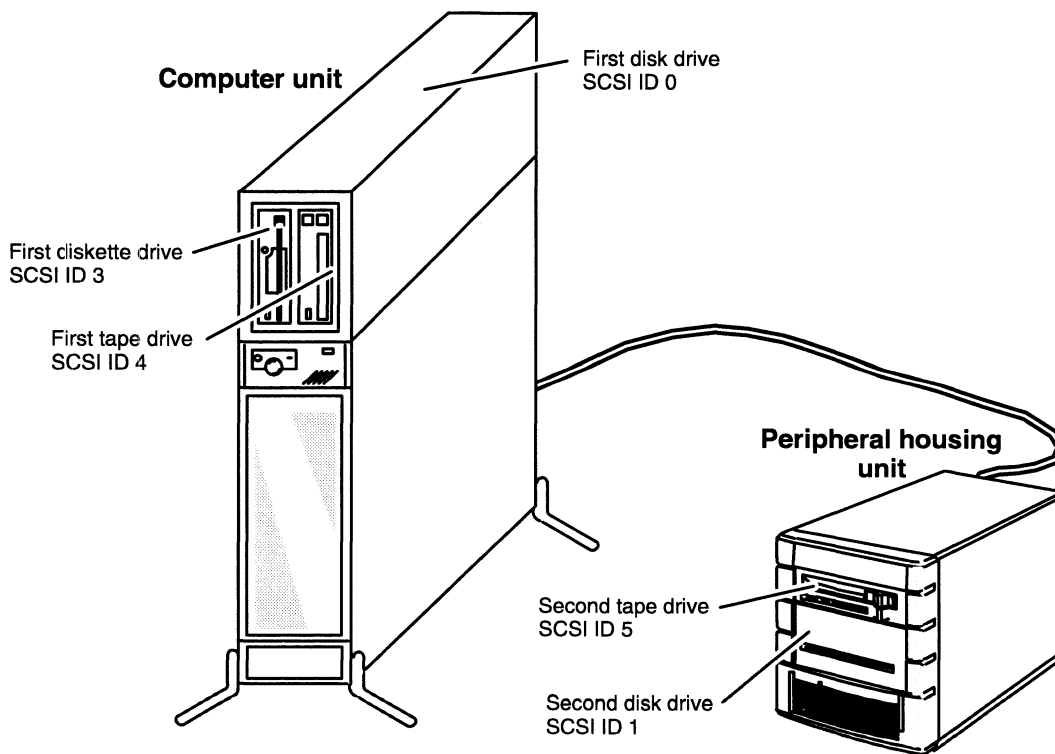

Figure 7-7 Example of Recommended SCSI ID Settings
- Set the SCSI ID jumpers or switches on the new drive or SCSI adapter board to the device ID you assigned it when you planned your SCSI bus. Table 7-2 reviews the device identification sequence we recommend; Figure 7-7 shows an example of a valid SCSI bus configuration.